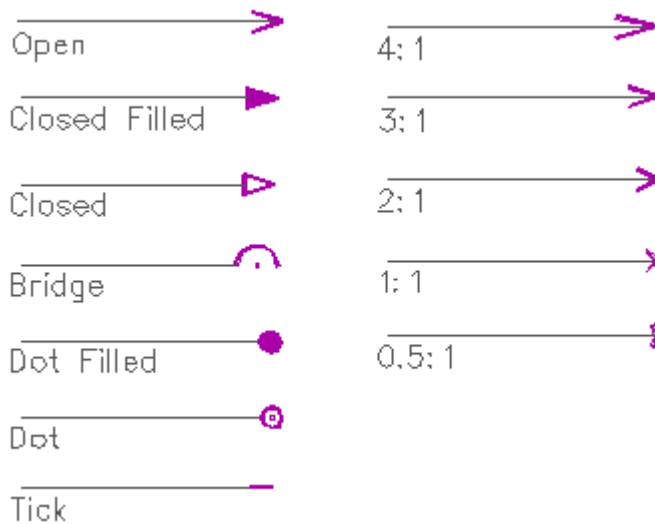

Figure 13.11: Examples of different arrowhead styles (left) and aspect ratios (right)
3. Choose an arrowhead style. Click on Style in the Arrows menu. A list of five arrowhead styles appears (see Figure 13.11 for examples).
8. Use the value menu or type a number for the aspect ratio and press (Enter). See Figure 13.11 for examples of aspect settings. An ANSI-standard arrowhead has an aspect ratio of 6.